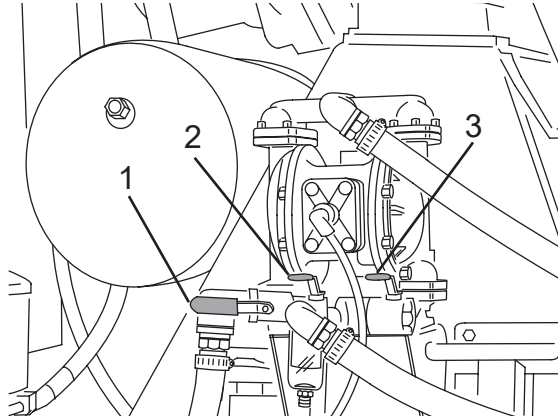

Figure 96
10. Close the main tank ball valve (Figure 96, Item 2) and chemical tank ball valve (Figure 96, Item 1) (if equipped).
11. Open the purge valve (Figure 96, Item 3).